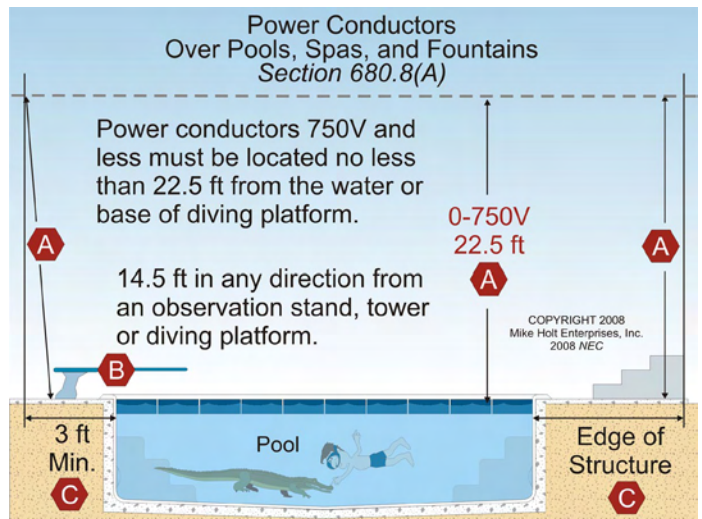

Figure 680-4
(A) Overhead Power Conductors. Permanently installed pools, storable pools, outdoor spas, outdoor hot tubs, fountains, diving structures, observation stands, towers, or platforms must not be placed within the clearances contained in the *NEC*, Table 680.8. **Figure 680-4**